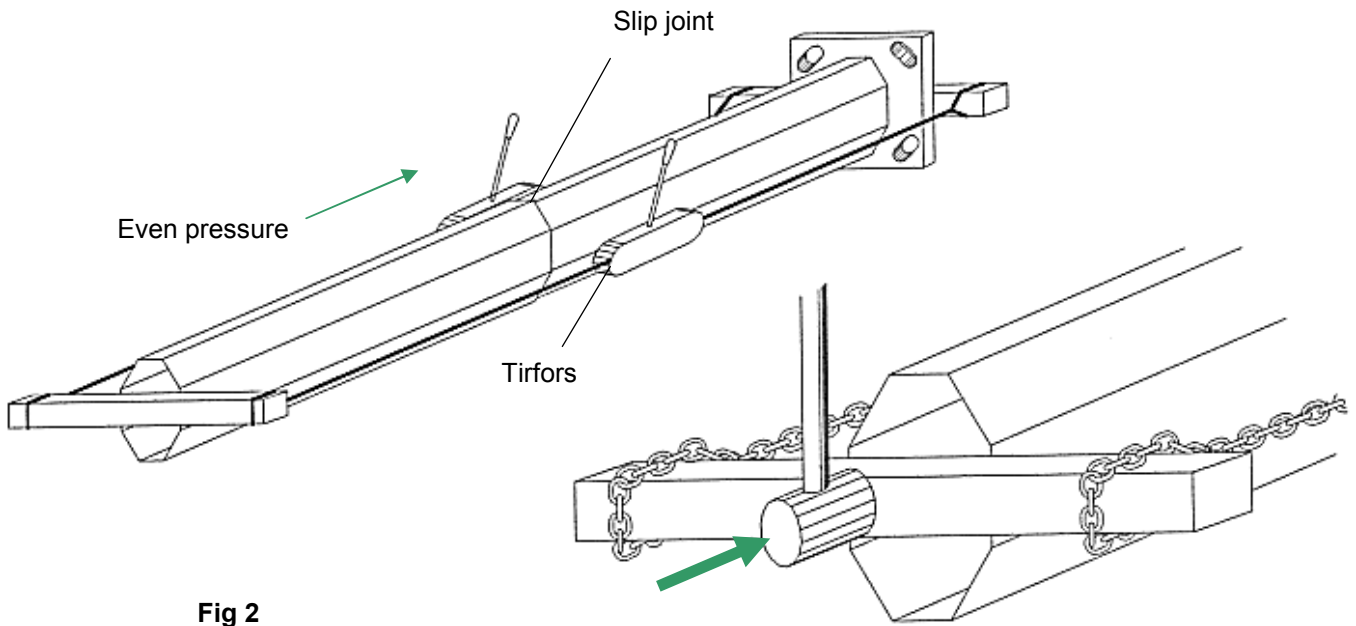

Fig 2
4) At this stage two Tirfors or similar are to be assembled as shown (See Fig 2) by fixing one end to the base of the pole by means of a suitable crossbeam, and the other end similarly to the top of the pole. Note crossbeams must be capable of withstanding the force required to pull the sections together, failure to do so may result in injury to the person or persons involved in the assembly procedure. The Tirfors are then to be operated under supervision, simultaneously to ensure an even pull down on the slipjoint. At the same time as this pressure is being applied the top crossbeam can be hammered down in the direction of the joint (See Fig 3) and the Joint area can be hammered via a wooden block to ensure a good joint. Note the galvanised surfaces should not be struck with metal objects as this may damage the protective coating.